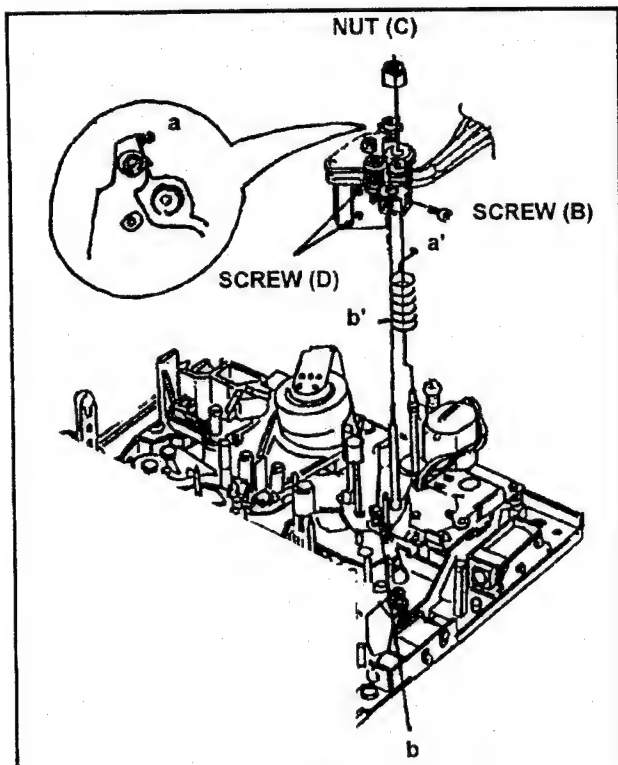

Fig. M5
2. Loosen the hex. screw (B) and remove the Nut (C). Pick up the Head Height Adjustment Spring and then remove the A/C Head Unit as shown in Figure M5.
**Point:** Memorize the height of Nut (C) before removing the Nut (C).
5. Remove 2 screws (D) to remove the Shield Cover as shown in Figure M5.